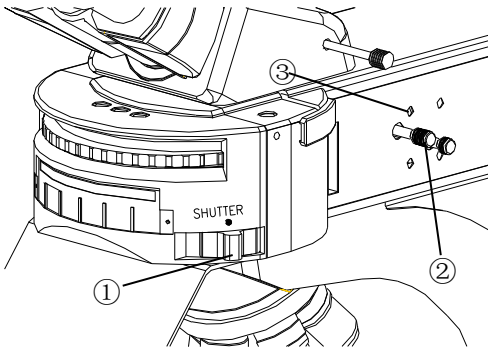

Fig.1
- Some mercury burners may not ignite the first time the power is turned on due to variance in production, and the safety mechanism in the starter in such a case. If this occurs, set the main switch to “1” (ON) , then press the starter reset switch on the front panel of the power supply and between 1 to 4 seconds are required for igniting the burner. Repeat as necessary.
3.2.5 Centering the Field Iris Diaphragm(Fig.1)